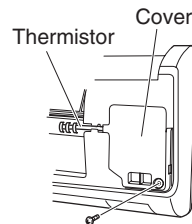

Fig. 10a
- (3) Remove the screw on the right side cover plate and open the cover. (Fig. 10a)
- (2) Make sure that the grille and frame are firmly fitted together by engaging the tabs.
- (3) Attach the thermistor on the grille. (Fig. 10a)
- (4) Close the cover and replace the screw. (Fig. 10a)